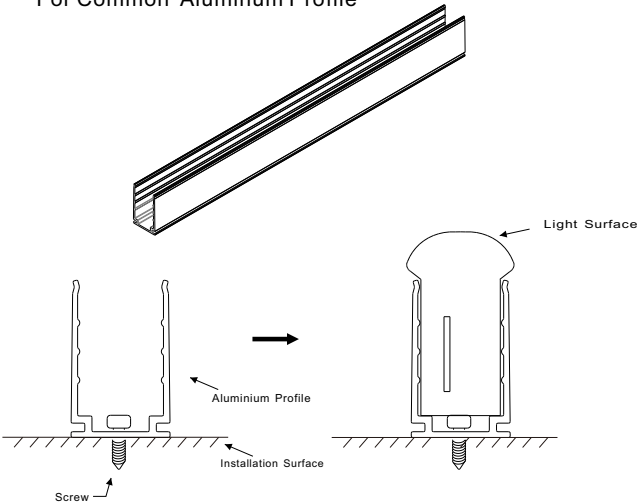

Fig. 12 Cable color coding basics
5. Wiring all connectors to the power line and checking whole circuit wiring. Cable color coding basics Refer to Fig. 12.